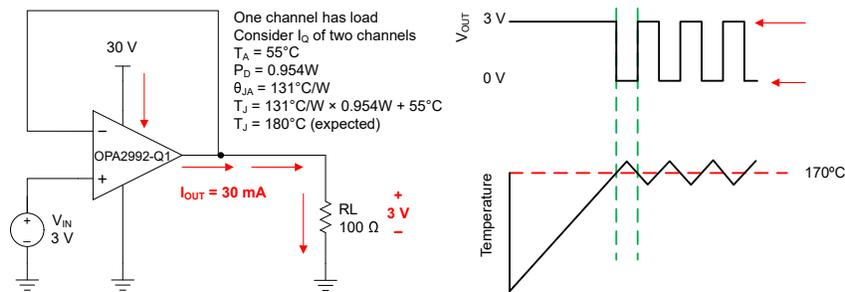

图 6-4. Thermal Protection
The internal power dissipation of any amplifier causes the internal (junction) temperature to rise. This phenomenon is called *self heating*. The absolute maximum junction temperature of the OPAx992-Q1 is 150°C. Exceeding this temperature causes damage to the device. The OPAx992-Q1 has a thermal protection feature that reduces damage from self heating. The protection works by monitoring the temperature of the device and turning off the op amp output drive for temperatures above 170°C. 图 6-4 shows an application example for the OPA2992-Q1 that has significant self heating because of the power dissipation (0.954W). In this example, both channels have a quiescent power dissipation while one of the channels has a significant load. Thermal calculations indicate that for an ambient temperature of 55°C, the device junction temperature reaches 180°C. The actual device, however, turns off the output drive to recover towards a safe junction temperature. 图 6-4 shows how the circuit behaves during thermal protection. During normal operation, the device acts as a buffer so the output is 3V. When self heating causes the device junction temperature to increase above the internal limit, the thermal protection forces the output to a high-impedance state and the output is pulled to ground through resistor R_L . If the condition that caused excessive power dissipation is not removed, then the amplifier oscillates between a shutdown and enabled state until the output fault is corrected. Please note that thermal performance can vary greatly depending on the package selected and the PCB layout design. This example uses the thermal performance of the SOIC (8) package.